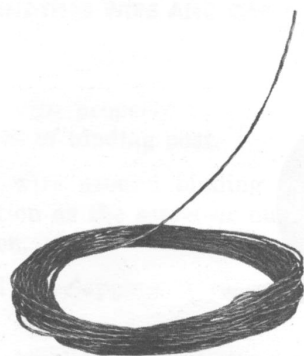

Fig. 2 — Removing Twisted Wire
2. Feed from center of coil (Fig. 2).